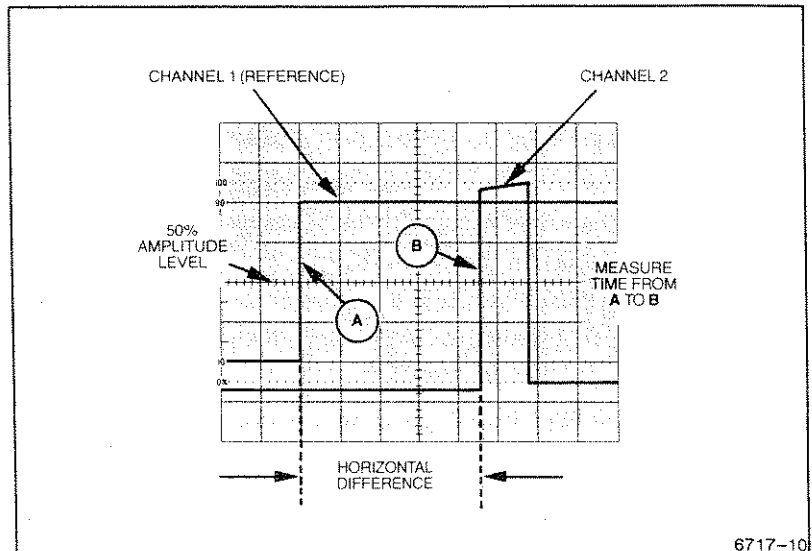

Figure 3-7. Time difference between pulses on time-related signals.
8. Set the SEC/DIV control to a sweep speed that provides three or more divisions of horizontal separation between measurement points on the two displays. Center each of the displays vertically (see Figure 3-7).
EXAMPLE. In Figure 3-7, the SEC/DIV control is set to 50 μs per division and HORIZONTAL MAG is set to X10. The horizontal difference between waveform measurement points is 4.5 divisions.